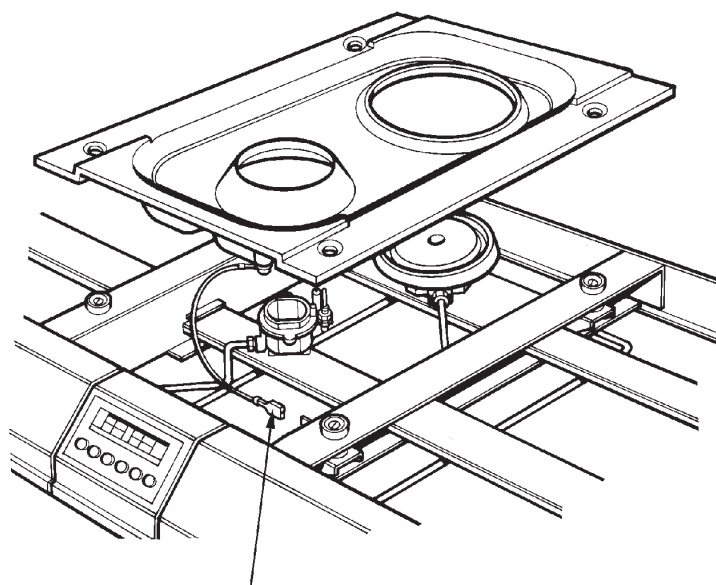

Fig. 24
**NOTE:** Each hotplate casting has an earth lead. Each lead must be disconnected before completely removing hotplate casting. (See Fig. 24).